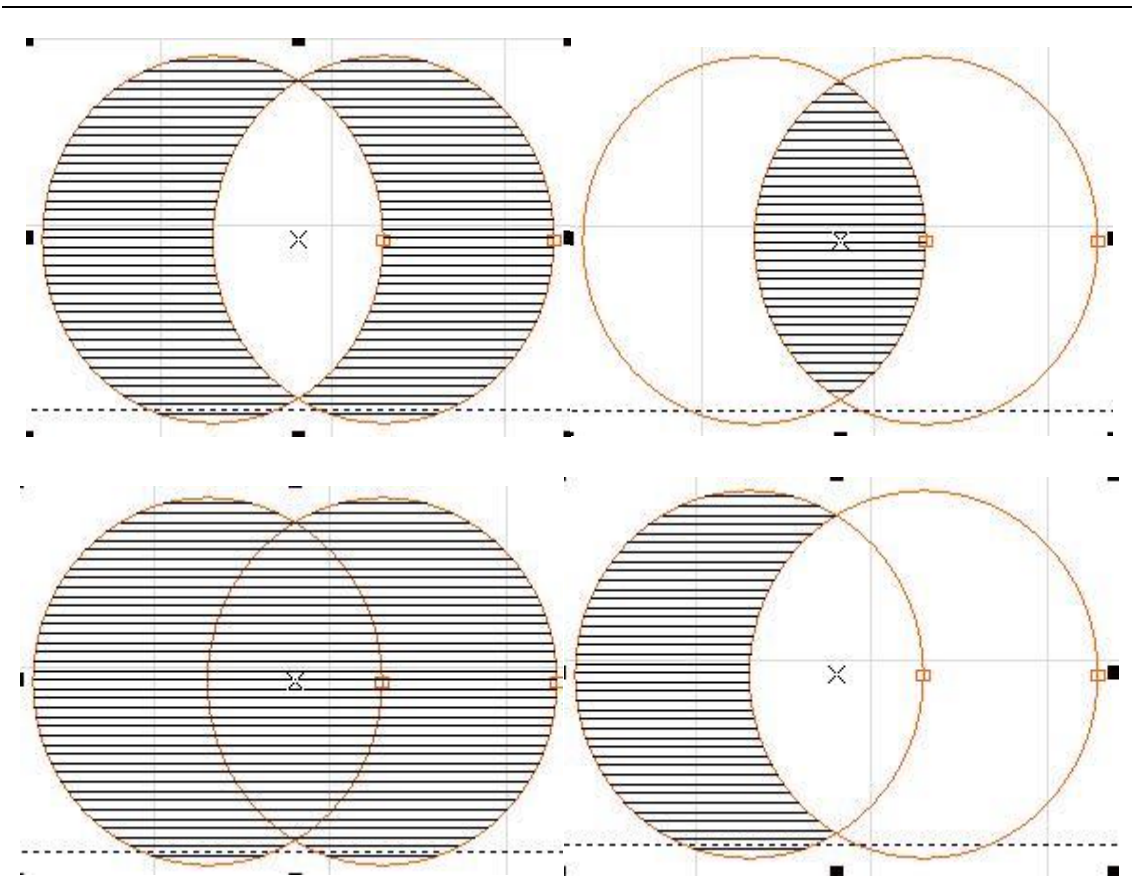

Fig 3-12 The upper left is the default, the upper right is the intersection, the lower left is the union, and the lower right is the difference
**Multi-figure Operation: Default, Intersection, Union, Difference Set As** shown in Figure 3-12, the figure combination can be filled with different patterns.